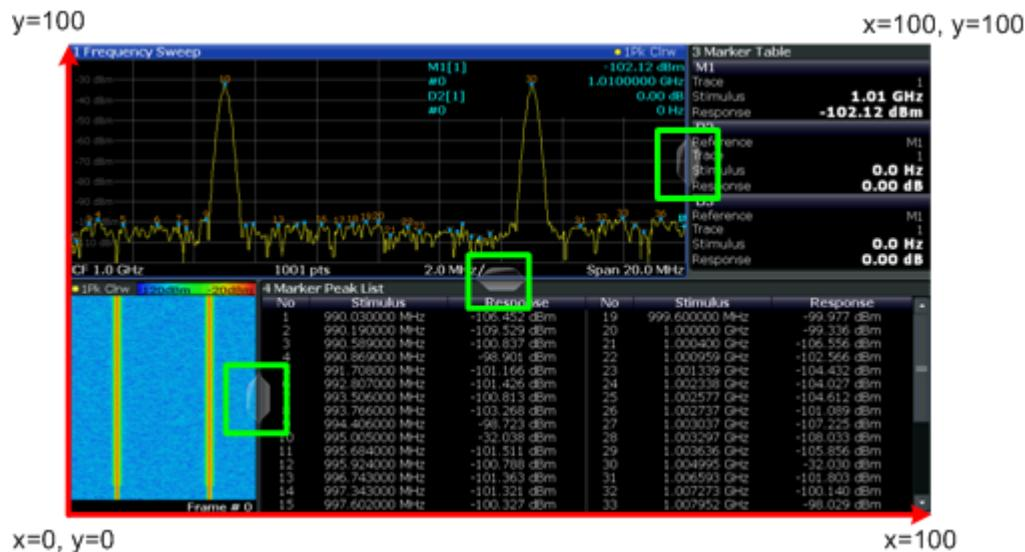

Fig. 10-1: SmartGrid coordinates for remote control of the splitters
- <Position> New vertical or horizontal position of the splitter as a fraction of the screen area (without channel and status bar and softkey menu). The point of origin ($x = 0, y = 0$) is in the lower left corner of the screen. The end point ($x = 100, y = 100$) is in the upper right corner of the screen. (See figure 10-1.)